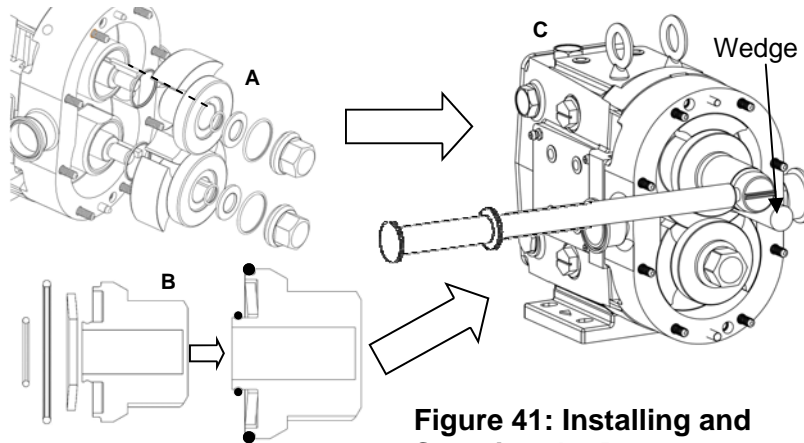

Figure 41: Installing and Securing the Rotor
2) Insert rotor key in the keyway on the shaft. Install a new rotor hub o-ring on the rotor hub and align the rotor keyway to the key in the shaft (Figure 41, A). Slide the rotor on until it seats against the shaft. Install the Bellville washer in the rotor nut and hold it in place using the small retaining o-ring (Figure 41, B). Place one nut on at a time, tightening them down using the appropriate wrench and a non-metallic wedge to hold the rotor in place (Figure 41, C). See Table 5 for required torque values. Repeat with the second rotor.